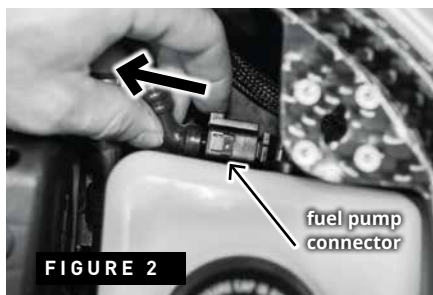

FIGURE 2
3) Connect the charger to the charging connector on the control unit (ICU) – FIGURE 2. **Never disconnect the charger when charging from the ICU!!!**
2) Disconnect the fuel pump connector – FIGURE 2.